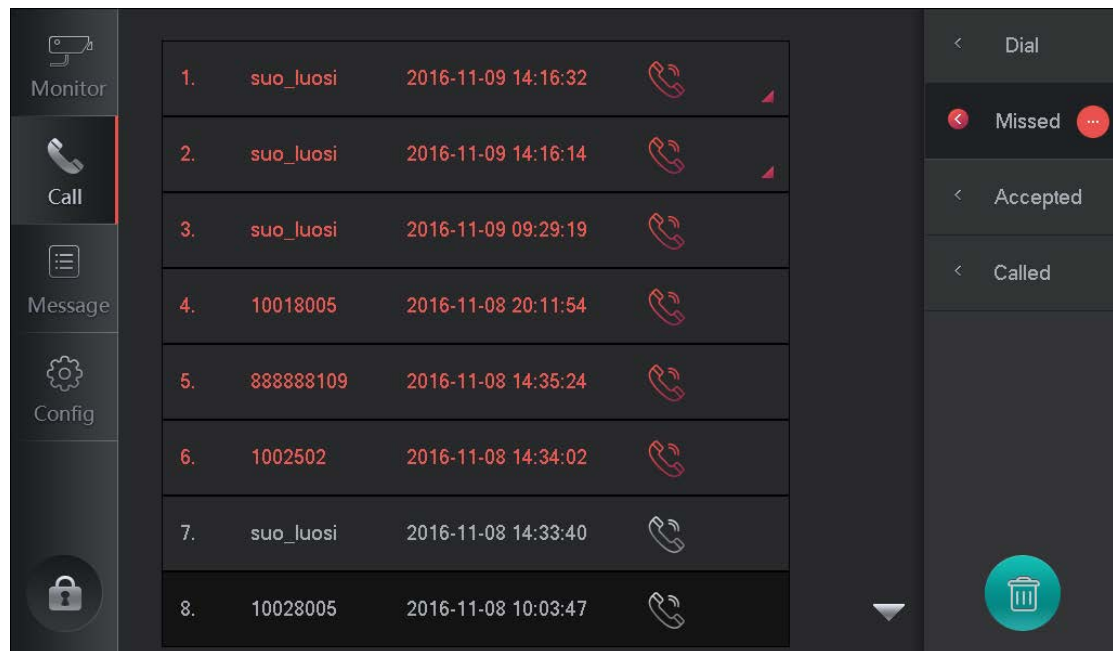

Figure 4-7
Step 1. Select Call>Missed, see Figure 4-7.